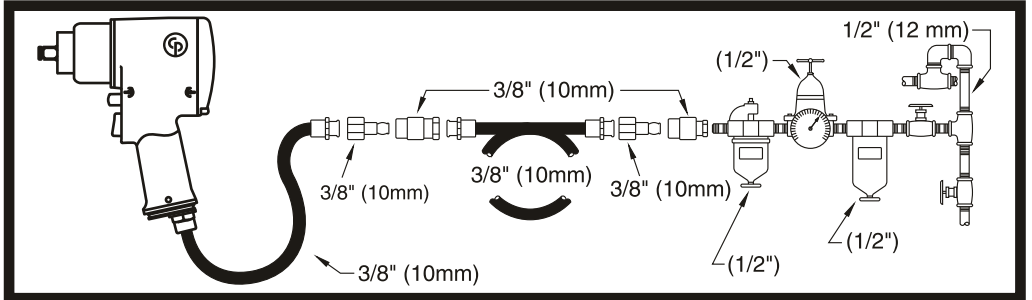

Fig. 01
- Connect device as shown in Fig. 01 to a clean and dry air supply.
- To start the machine, pull the trigger (A). Machine speed is increase by increasing pressure on the trigger. Release the trigger to stop.